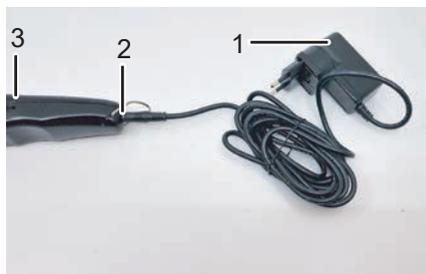

Fig. 2 Control and display elements
1. Slide the on/off switch (Fig. 2/1) to position "0".
2. Unscrew both screws (2).
3. Remove the clipping blade (1).